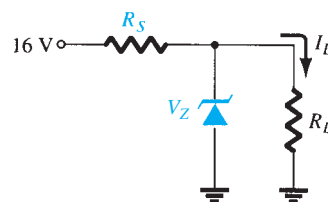

FIG. 2.187
- *43. a. Design the network of Fig. 2.187 to maintain V_L at 12 V for a load variation (I_L) from 0 mA to 200 mA. That is, determine R_S and V_Z .